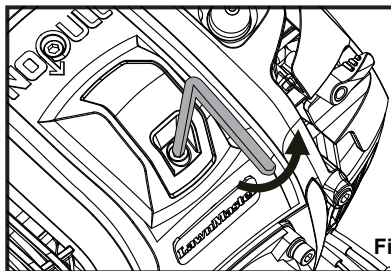

Fig. 33
- Remove the spark plug cover using the provided hex wrench (Fig. 33).